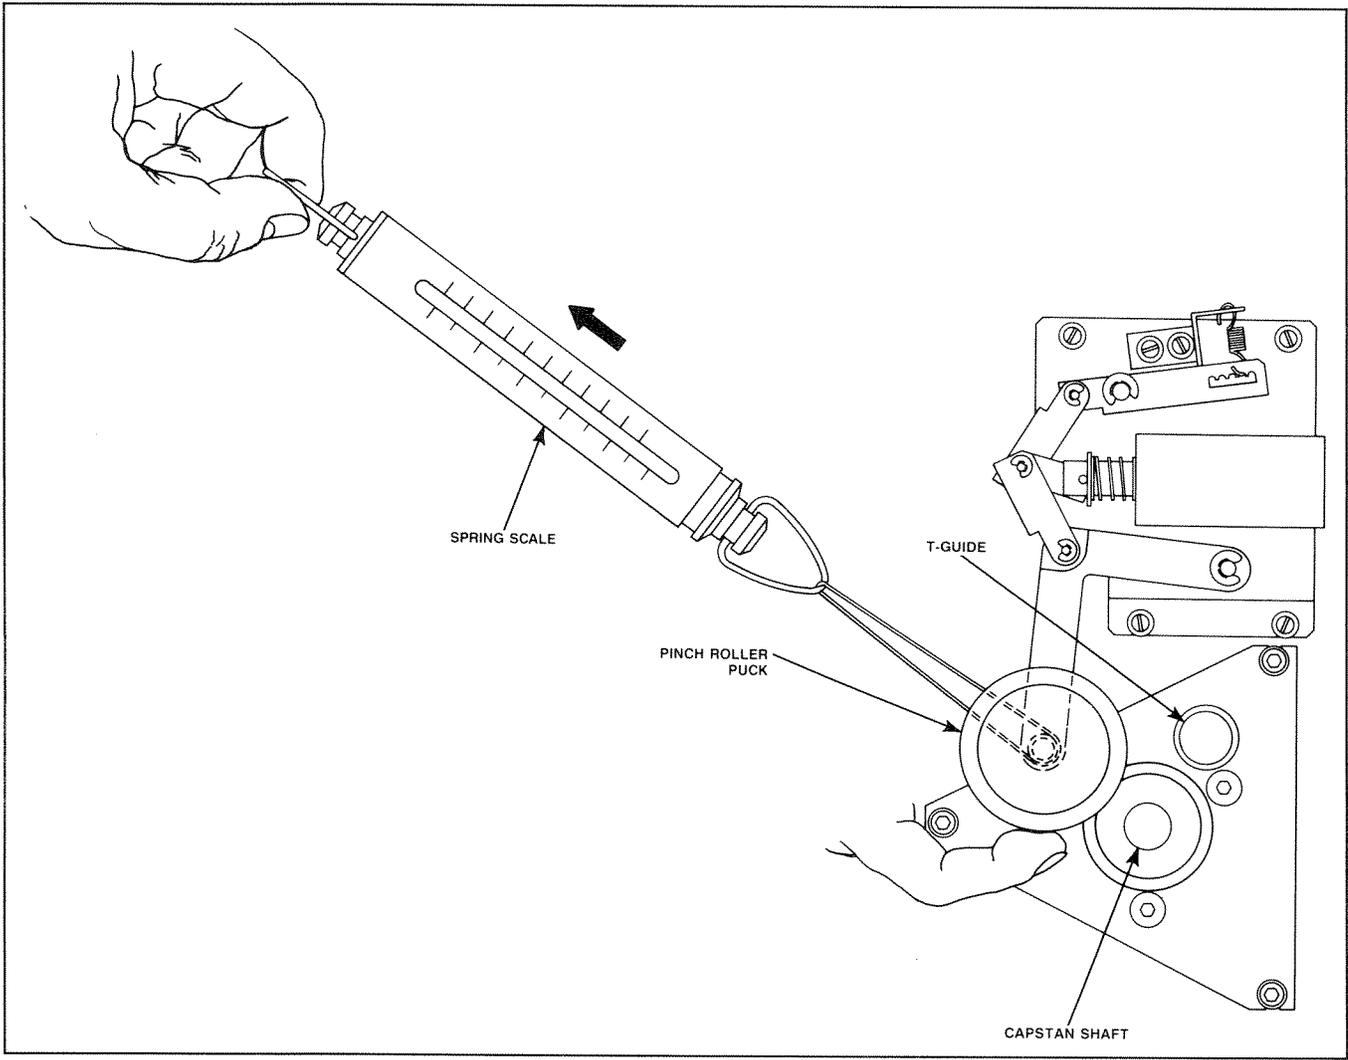

Figure 6-20. Pinch Roller Puck Pressure
- STEP 6** Pull the scale toward the supply reel parallel to the tape transport (see Figure 6-20). Apply pressure lightly to the spinning pinch roller with the forefinger while pulling the spring scale continuously.